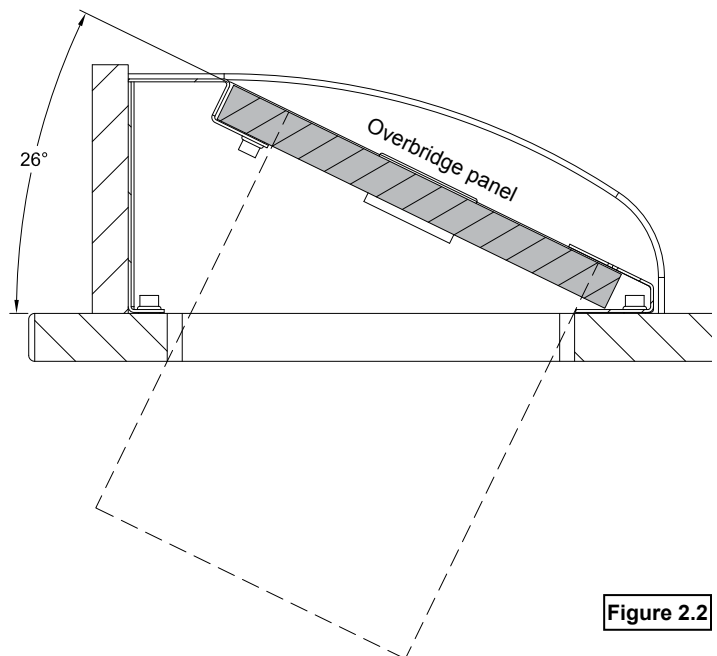

Figure 2.2
3. Identify the depth of your device to verify it will not interfere with the worksurface or any other objects under the overbridge when the panel is attached. **Figure 2.2.**